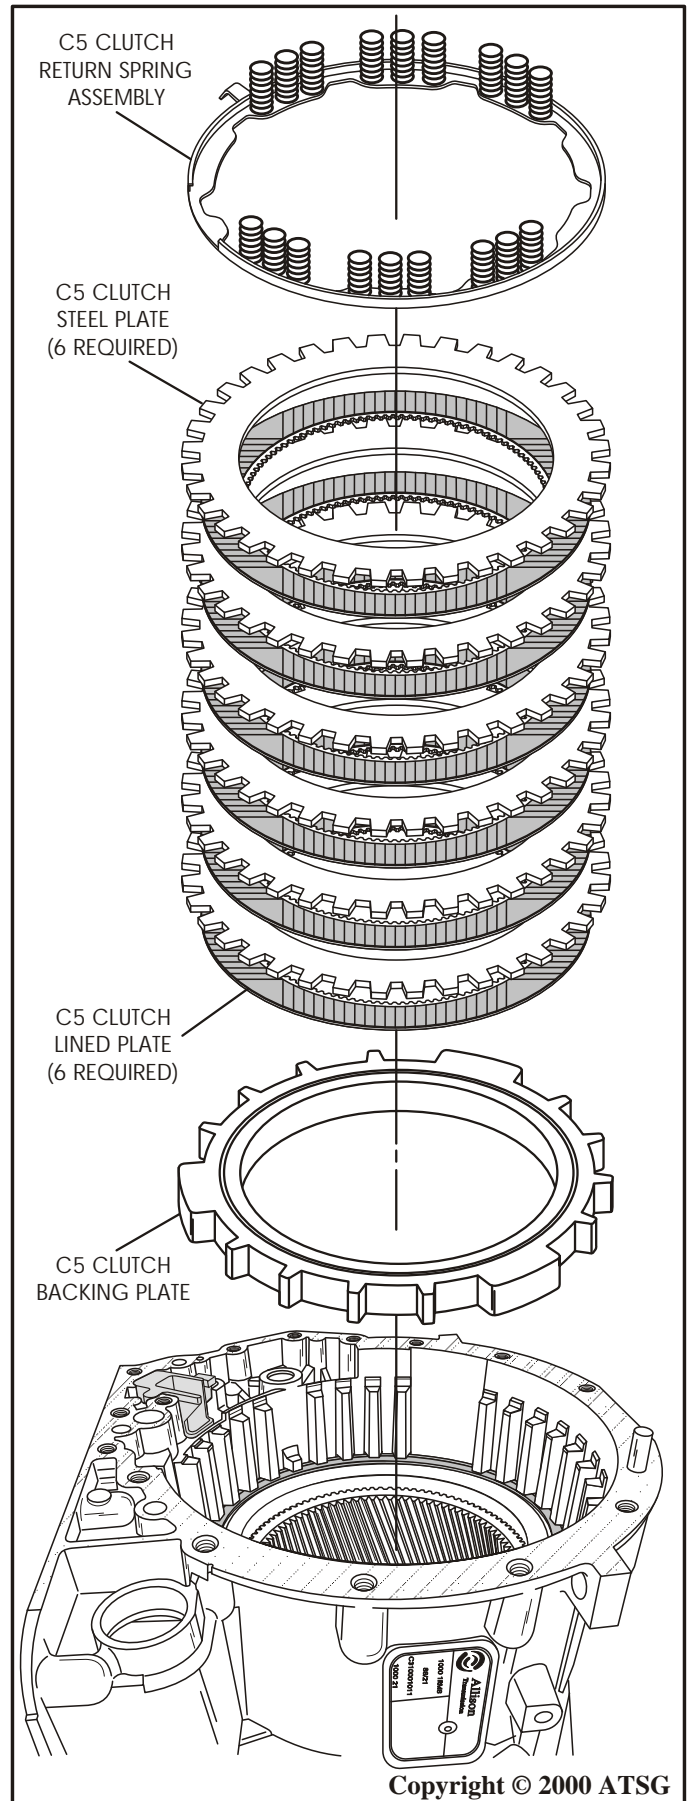

Figure 64
42. Remove the C5 clutch return spring assembly from case, as shown in Figure 64.
43. Remove the C5 clutches both lined and steel from case, as shown in Figure 64.
45. Remove the C5 clutch backing plate from the case, as shown in Figure 64.